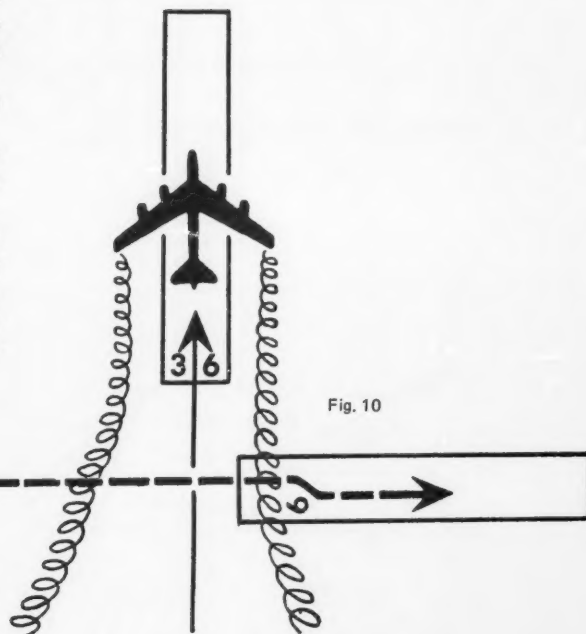

Fig. 10
- Landing after a large aircraft on a crossing runway. Cross above the large aircraft's flightpath (see Fig. 10).